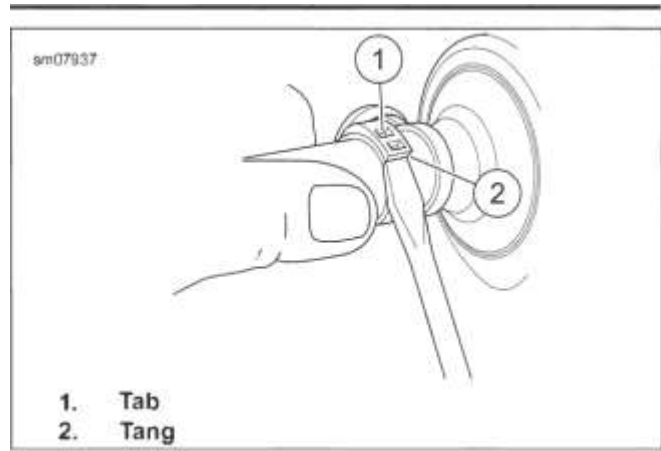

Figure 4-10. Removing Crimp Clamp
1. See Figure 4-10. Push tip of small screwdriver under end of tang (2).